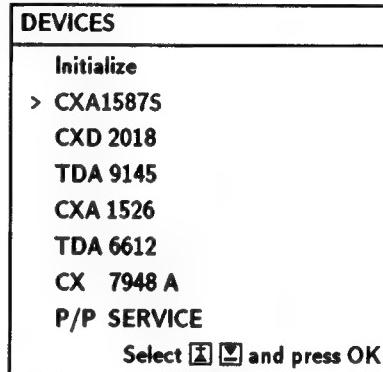

Fig.4-5
6. The menu of fig.4-5 will appear on screen. Select DEVICE corresponding to the adjustment item from the table on next page.